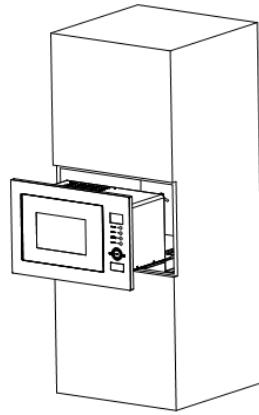

Fig. 4
- d) Put the product into the cabinet till the metal distance-limited chunk fall down, as shown in Fig. 4